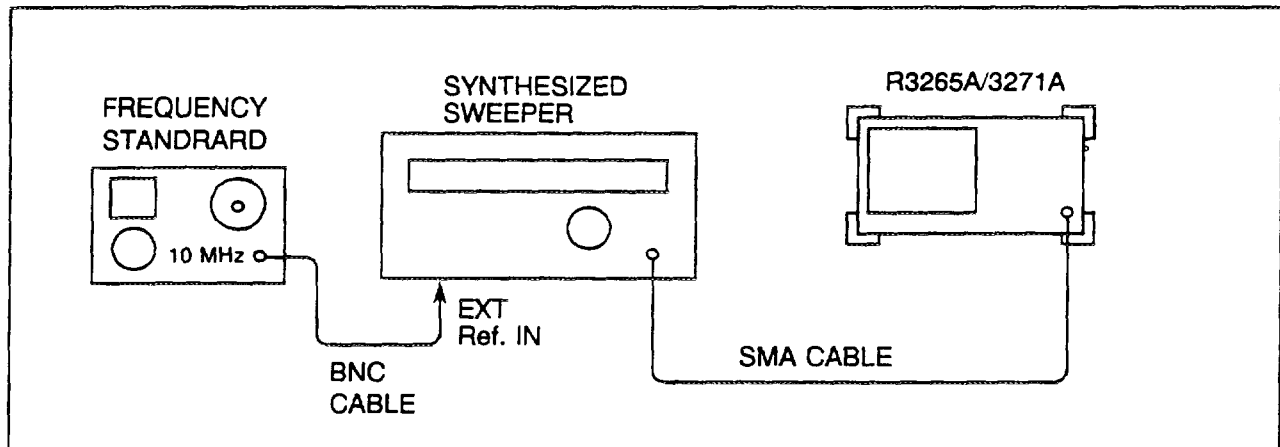

Figure 4-1 Frequency Readout and Frequency Counter Marker Accuracy Test Setup
(1) Connect the equipment as shown in Figure 4-1